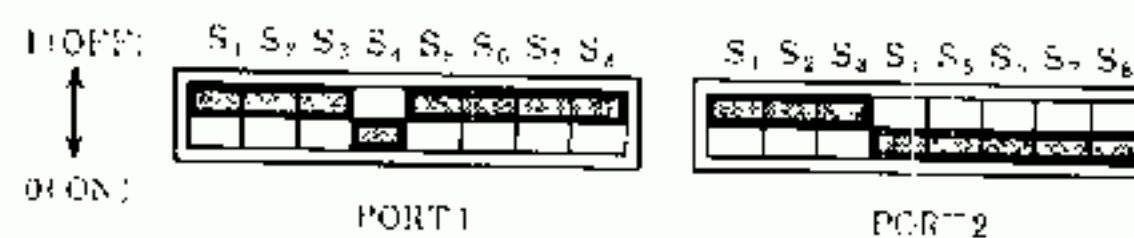

Fig. 5.1.124 P190 DIP Switch Setting
- The P190 DIP switch has been preset to the state of mark  prior to shipment as shown in Fig.5.1.124.
- MEMOLINK can be connected, without changing the setting condition as shown in Fig. 5.1.124.